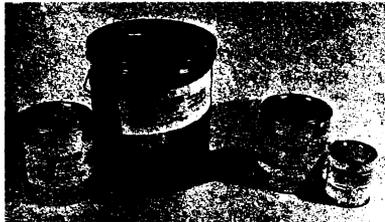

FIGURE 3
3.02 RP-6018 Compound is offered in 1 gallon units (A Pkg.) and 5 gallon units (D Pkg.) with each unit consisting of a container of hardener (Part B) and a properly proportioned container of resin (Part A). (See Figure 3)